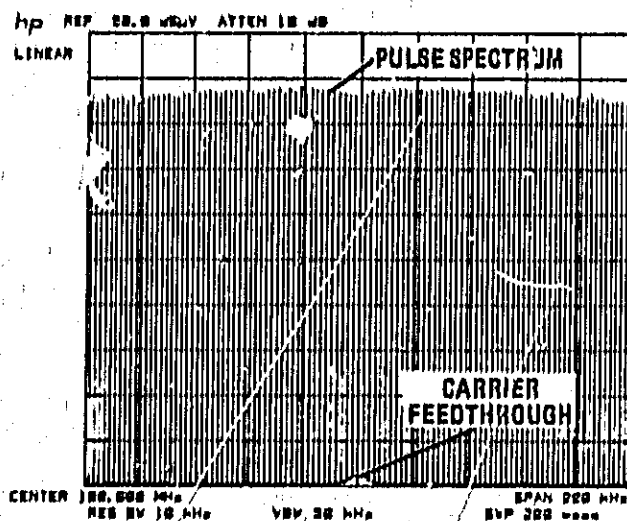

Figure 4-8. Correct Zeroing of Carrier
9. On pulse generator, adjust OUTPUT (+) OFFSET vernier to minimize carrier feedthrough, without decreasing pulse spectrum amplitude (Figure 4-8). (Correct setting is near midrange.) Adjust reference level on spectrum analyzer, if necessary, to keep signal below top of display.